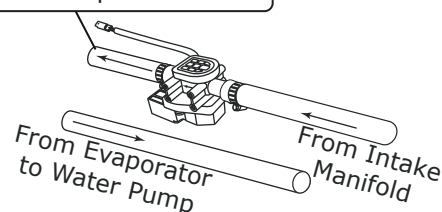

Figure 1
- Route a length of heater hose from the lower heater hardline to the "T" fitting from the water pump, and secure it using (2) hose clamps (See Photo 1, below).
- Cut a length of heater hose approximately 4" to 5" from the firewall cover, then install it onto the upper heater hardline. Install the heater control valve, and secure it with (2) hose clamps (See Photo 2, below).
**NOTE: Ensure proper flow direction through the heater control valve. The flow direction follows the molded arrow on the valve (See Figure 1, below).** Install another length of heater hose from the heater control valve to the intake, then secure it with (2) hose clamps (See Photo 3, below).